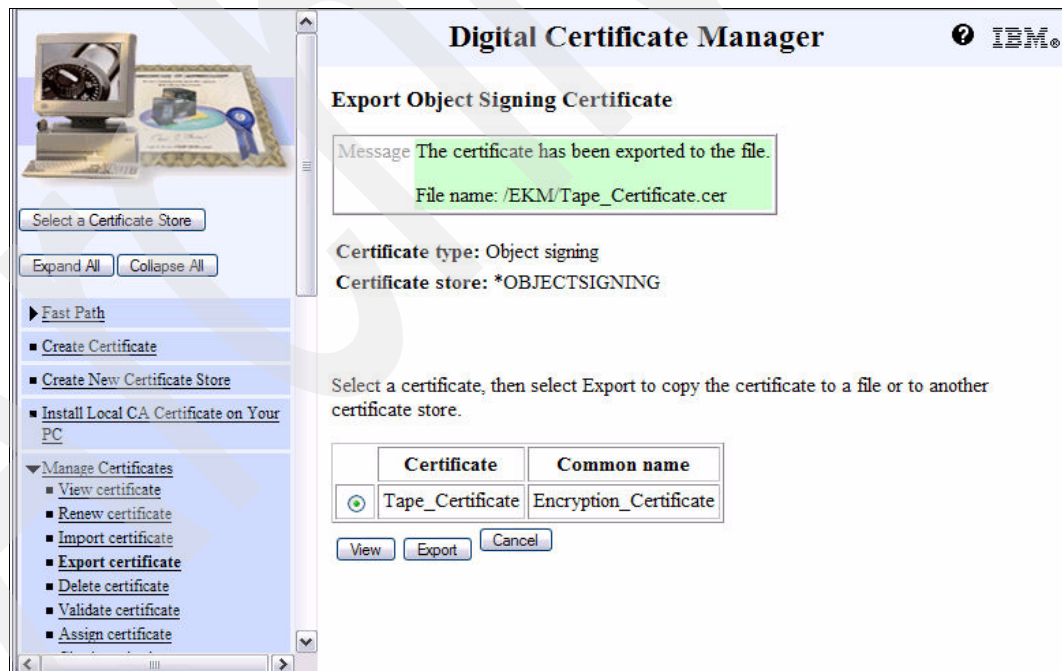

Figure 7-50 DCM Export Object Signing Certificate confirmation screen
18. After clicking **Continue**, a successful export of the public key certificate is indicated by the message, The certificate has been exported to the file, as shown in Figure 7-50.